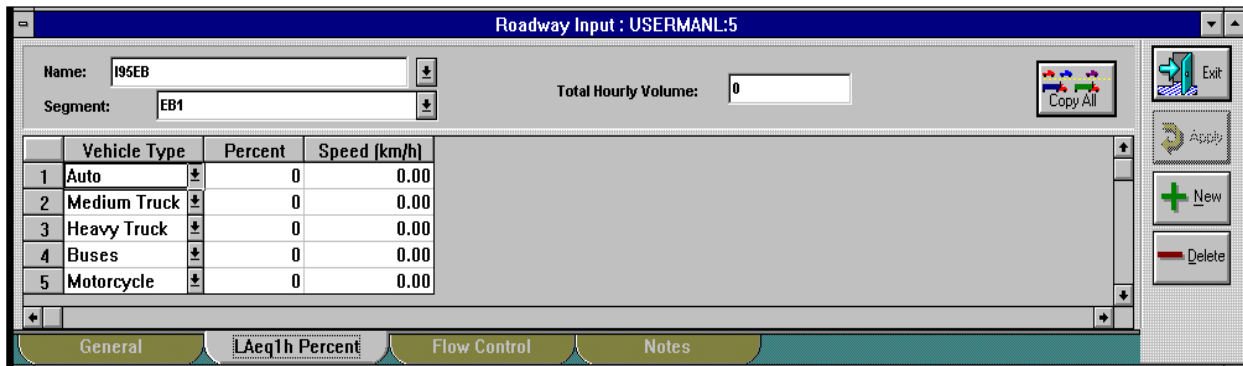

Figure 22. Roadway input: Traffic tab (L_{Aeq1h} Percent).
2. Select **LAeq1h Percent** on the roadway input dialog (see Figure 22).